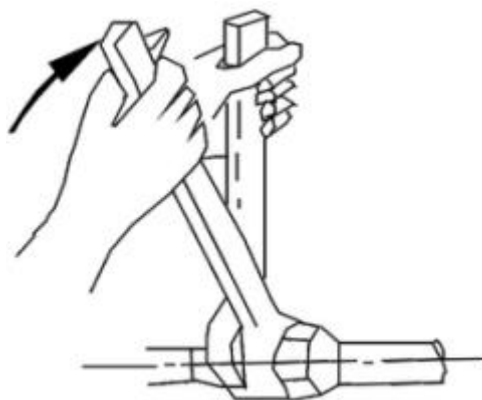

Figure 6
- Please use four or more soft lifting belts to move the sets (see Figure 6).